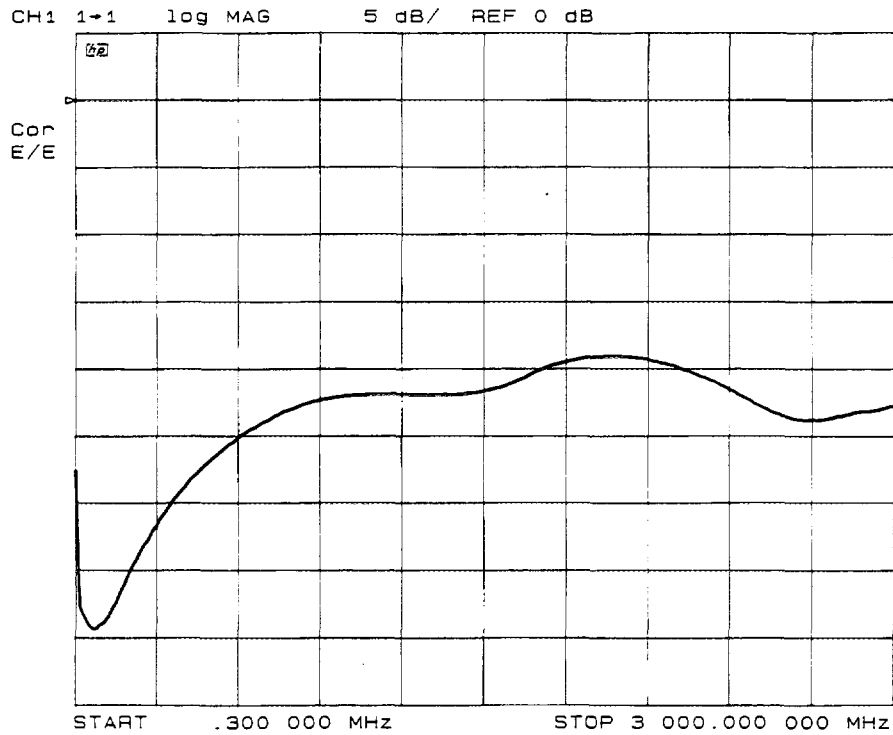

Figure 6. Typical ELEC INPUT MATCH PLOT
- ELECTRICAL INPUT MATCH, conditions: 1 – 6. See Figure 6.